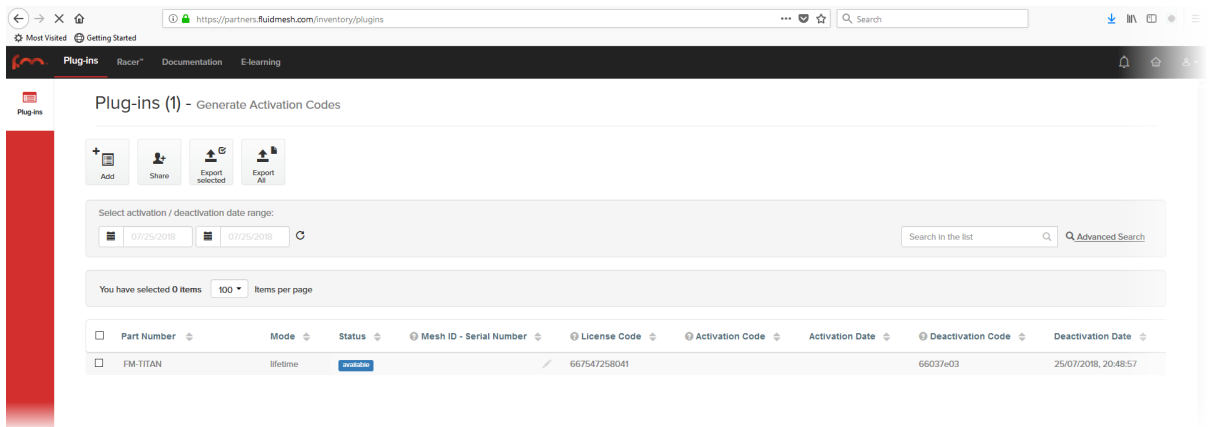

Figure 73. Partner Portal (Plug-ins web page)
- The Plug-ins web page will be shown (Figure 73 \(page 154\)).